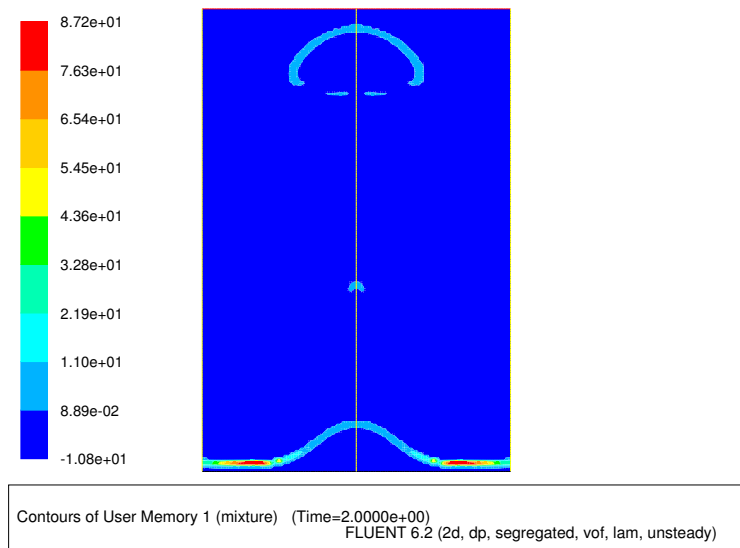

Figure 7: Contours of User-Defined Memory at $t = 2.0s$
3. Display filled contours of user-defined memory after 2000 time steps ($t = 2.0s$). See Figure 7.